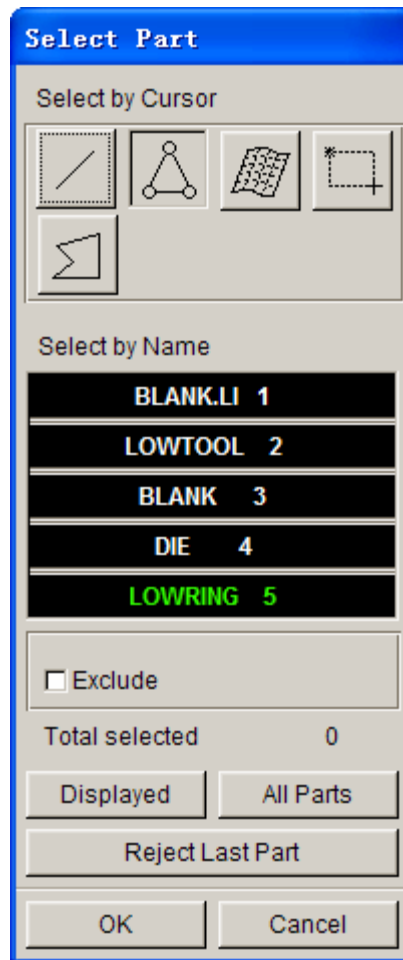

Figure 52: Select part dialog box
3. Use your mouse cursor to pick the part **LOWRING** from the **Select Part** dialog box illustrated in Figure 52.